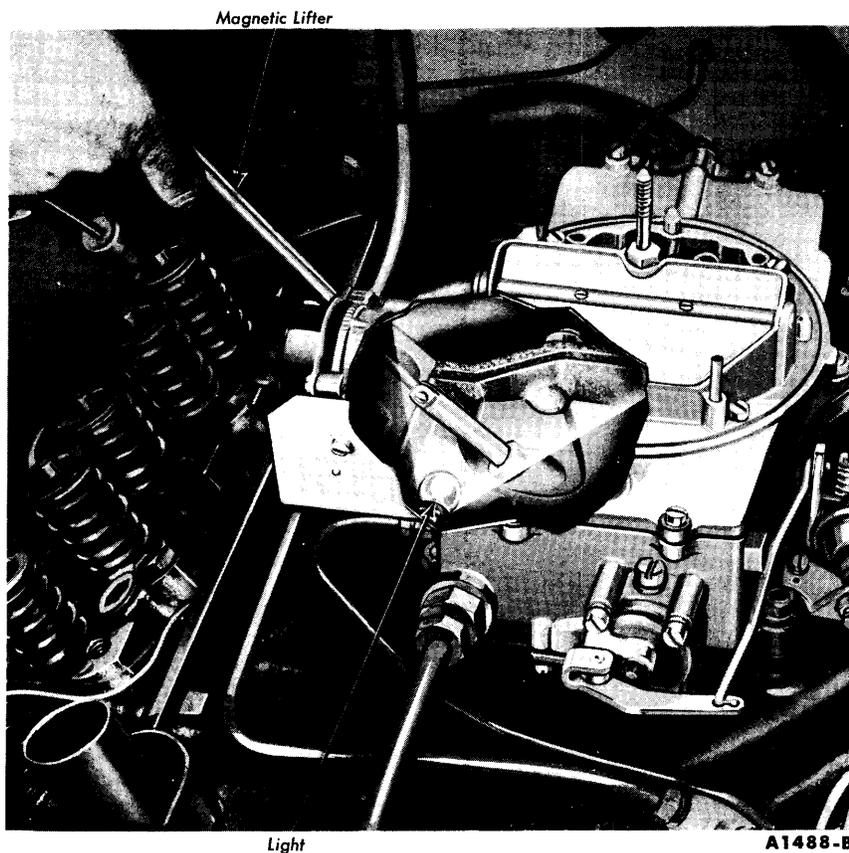

FIG. 55—Valve Lifter Replacement—Intake Manifold Installed
5. Position an inspection light through a push rod opening and into the valve push rod valley (Fig. 55). Remove the valve lifters with a magnet through the push rod openings. In some cases, it will be necessary to transfer the lifter over to an adjoining push rod opening in order to remove it. Place the lifters in a rack so that they can be installed in their original positions.
2. Position an inspection light through a push rod opening and into the valve push rod valley (Fig. 55). Remove the valve lifters with a magnet through the push rod openings. In some cases, it will be necessary to transfer the lifter over to an adjoining push rod opening in order to re-
3. Install the new (or cleaned) hydraulic valve lifters through the push rod openings with a magnet (Fig. 55).